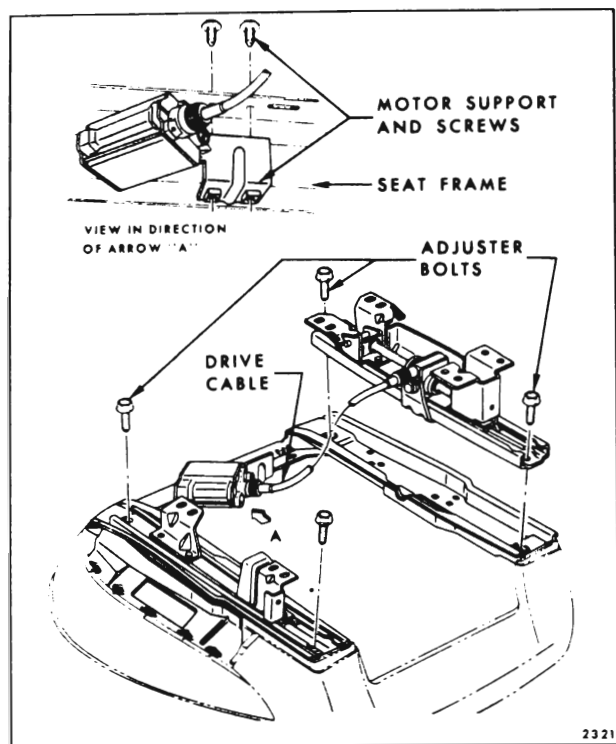

Fig. 15-41 - Power Horizontal Bucket Seat Adjuster Removal
2. Disconnect power drive cable from adjuster gearnut (Fig. 15-41).
3. Remove adjuster-to-seat bottom frame front and rear attaching bolts (Fig. 15-41) and remove adjuster from seat assembly.